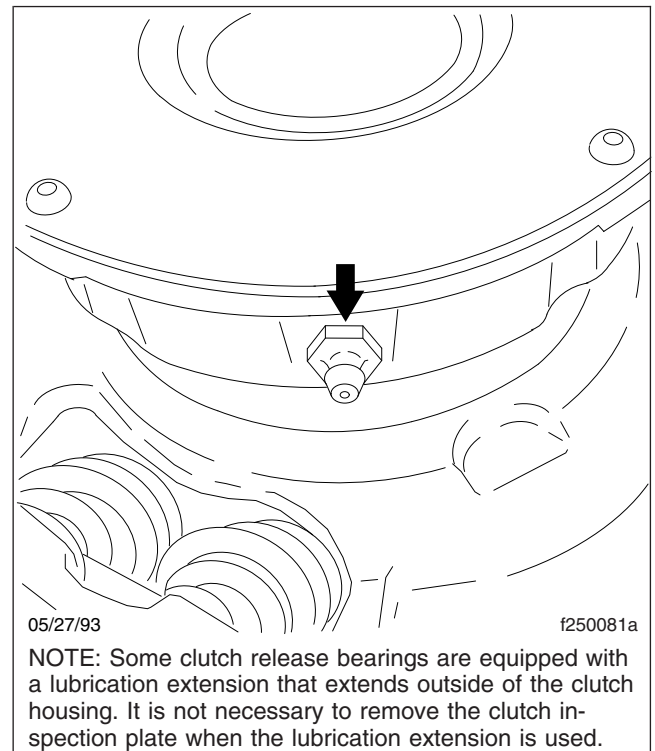

Fig. 1, Release Bearing Grease Fitting
3. Wipe away any dirt from the grease fitting. See Fig. 1. Using a pressure-type grease gun equipped with the recommended grease, lubricate the bearing until excess grease purges from the rear of the release bearing (toward the transmission).